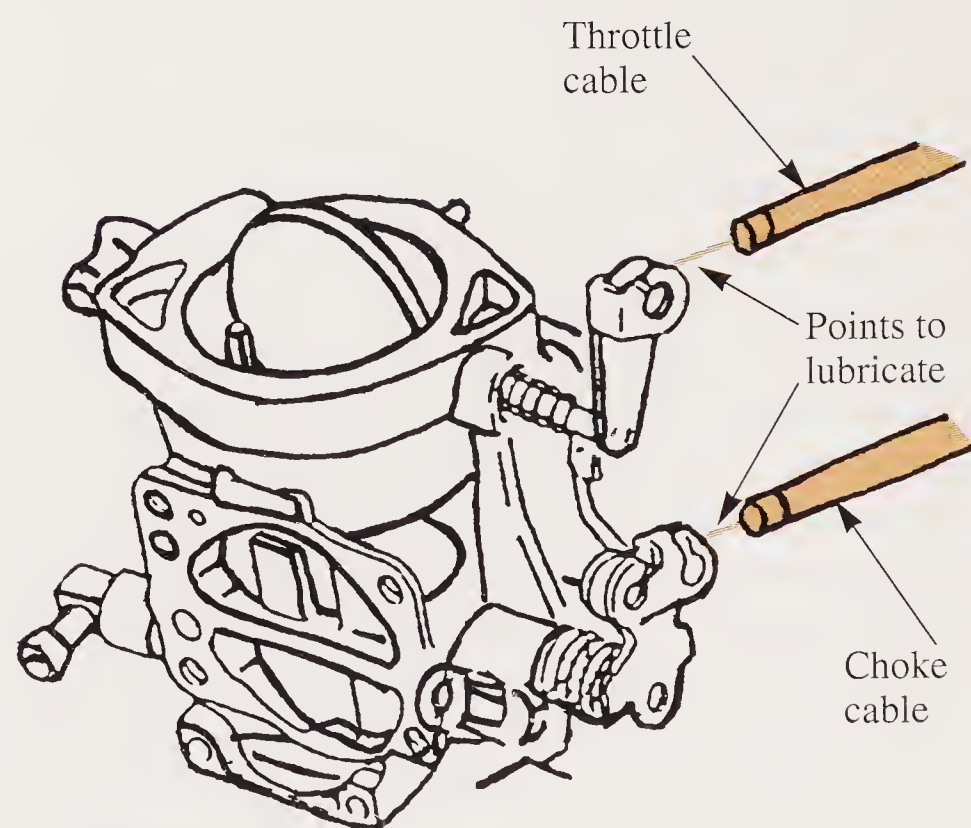

Figure 21-56. Grease springs and exposed portions of cable and shafts at the carburetor. Use specified waterproof grease. (Polaris)
- **Throttle cable and choke cable.** Special cable lube is used to lubricate the inner cables. The throttle lever should be depressed and cable lube squirted onto the cable. The lubricant is worked down the cable by pushing and releasing the throttle several times. The choke cable is lubricated similarly. See **Figure 21-56**.